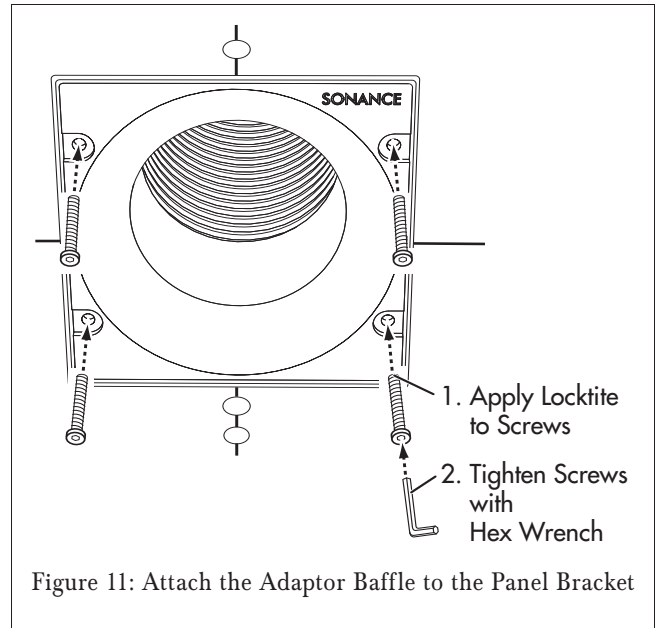

Figure 11: Attach the Adaptor Baffle to the Panel Bracket
7. Use the hardware included with the Adaptor Baffle to attach it to the Panel Bracket (see *Figure 11*):